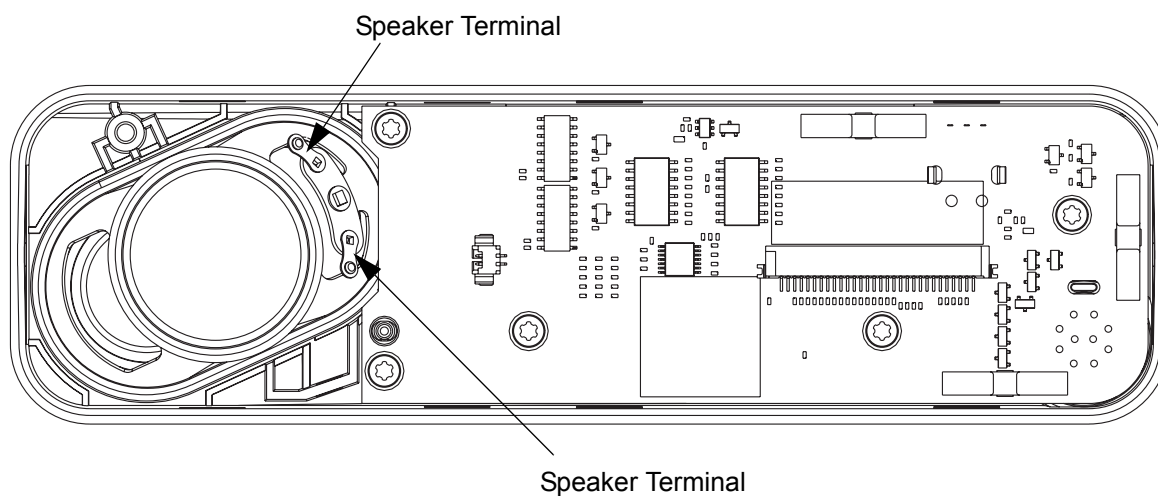

Figure 5-40 Speaker Assembly
a. Place the speaker in the control head assembly as shown in Figure 5-40.